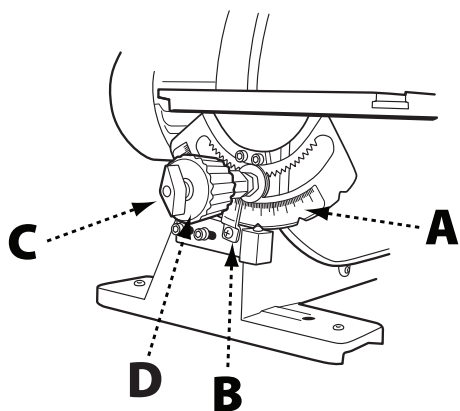

FIGURE 8
The table can be tilted up to 45 degrees up or down. A scale (A), Figure 8, and pointer (B) are provided to indicate the degree of tilt. Ball-indent positive stops on the tilt adjustment indicator are located at 0°, 35°, and 45°.